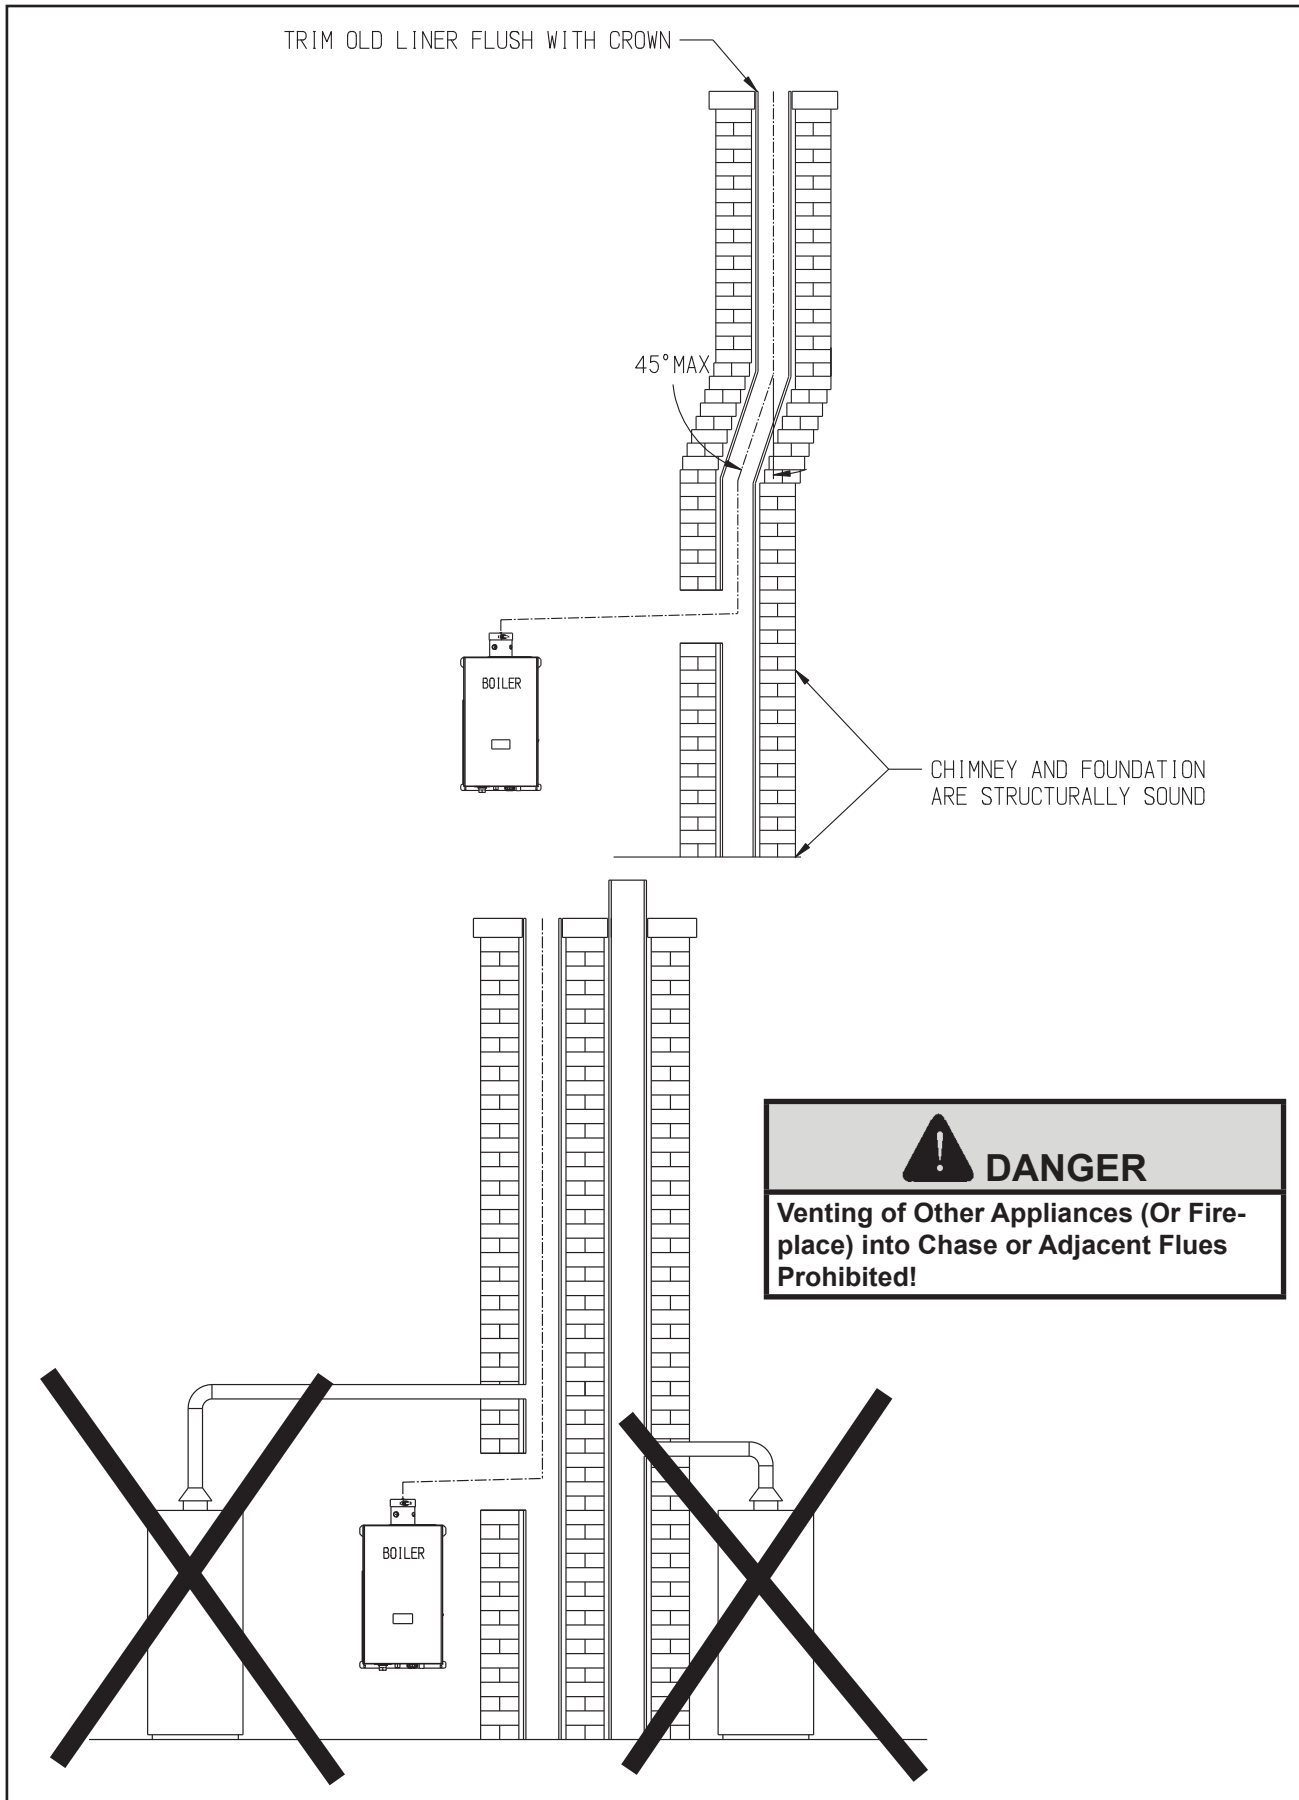

Figure 7.25: Masonry Chimney Chase Requirements
- All flex pipe must be installed vertically. Up to two offsets (four bends) may be made in the vertical run of flex pipe. Bends used to make these offsets may not exceed 45 degrees (Figure 7.25).